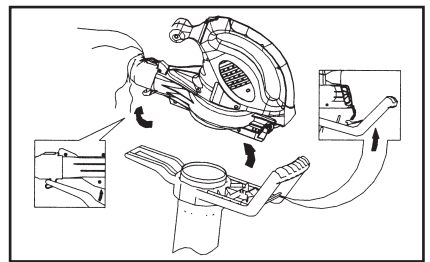

Fig 6
4. Hook the Vacuum inlet cover to the latch on the Bag Connection Mount, then attach to the rear of the engine housing. The latch should "snap" into place. (Fig 6)